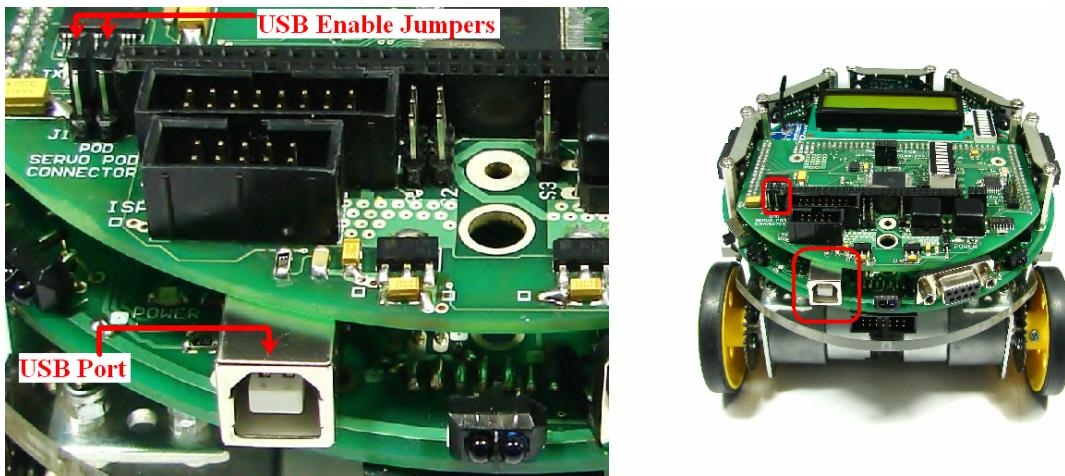

Figure 6.2: Jumper setting to enable USB communication
FT232 USB to serial converter can be connected with UART 2 of the ATMEGA2560 microcontroller via Jumper J1. Figure 6.2 shows the correct jumper setting for connecting FT232 with the microcontroller.
- Make sure that jumper is configured to enable USB communication. Jumpers should be in the position as shown in the Figure 6.2.